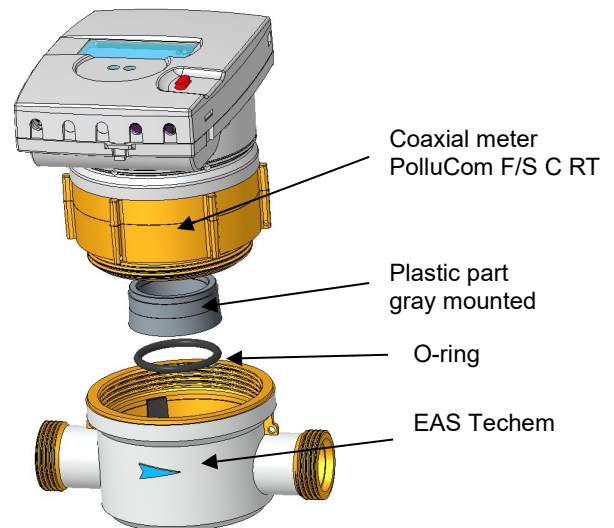

Fig. 5.4.1: Mounting the coaxial meter in the EAS
- Check the installation point again for correct flow direction (arrow on the housing), correct its installation if necessary. (Fig. 5.4.1)